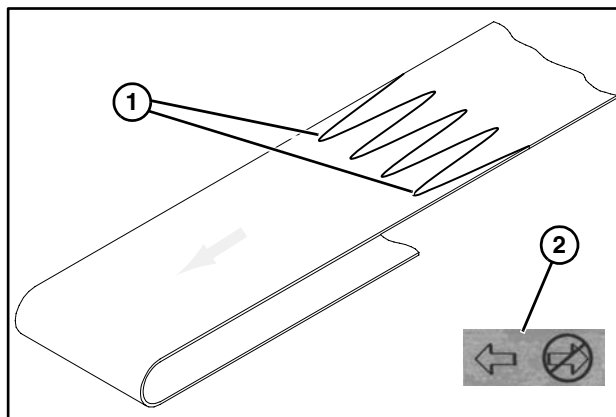

Figure 37
2. Orient belt so splice leading fingers (**Figure 37, item 1**) point in the direction of belt travel as identified by the conveyor directional label (**Figure 37, item 2**).